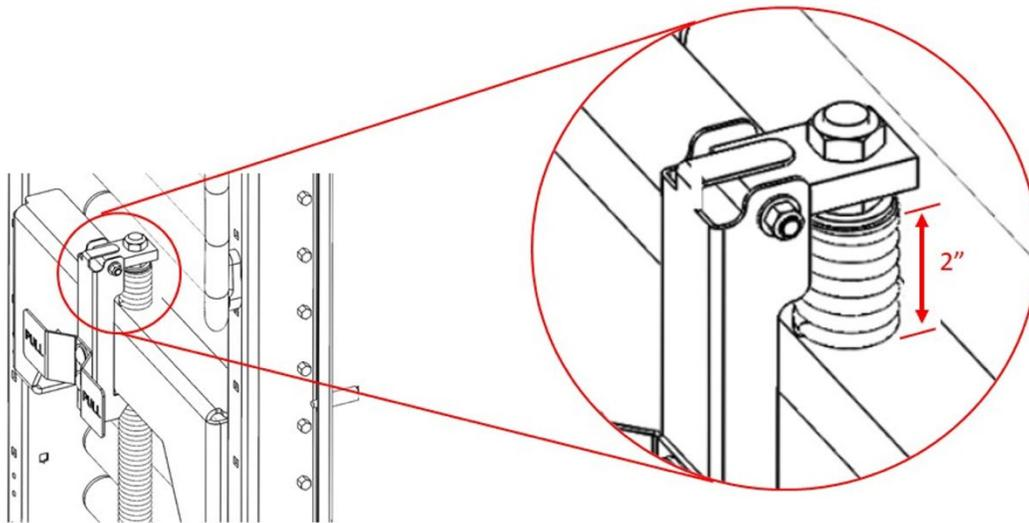

Figure 11: Gate Latch Adjustment
- After the springs have been tensioned, adjust the hex nut at the top of the threaded rod to compress the small spring. With the gate opened vertically, the compressed height of spring should be 2" as shown in Figure 11. If the spring is compressed correctly the gate latch assembly should "latch" to the bed spacer when the gate is opened vertically. To close the gate, pull the latch handle while applying pressure to the gate horizontally. (See Figure 11)